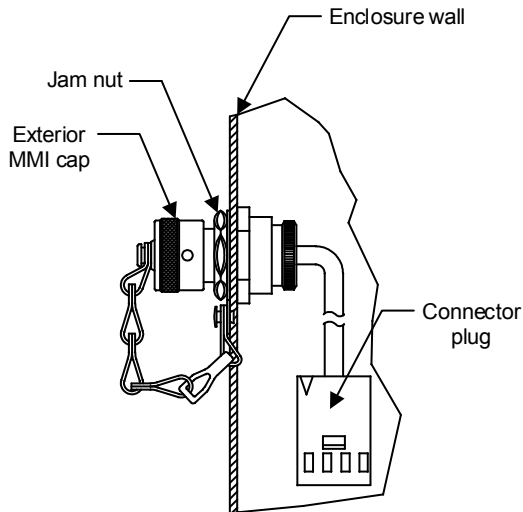

Figure 4: G4/G5 MMI cable installation, enclosure side view
- Remove the exterior MMI cap on the outside of the enclosure (Figure 4).